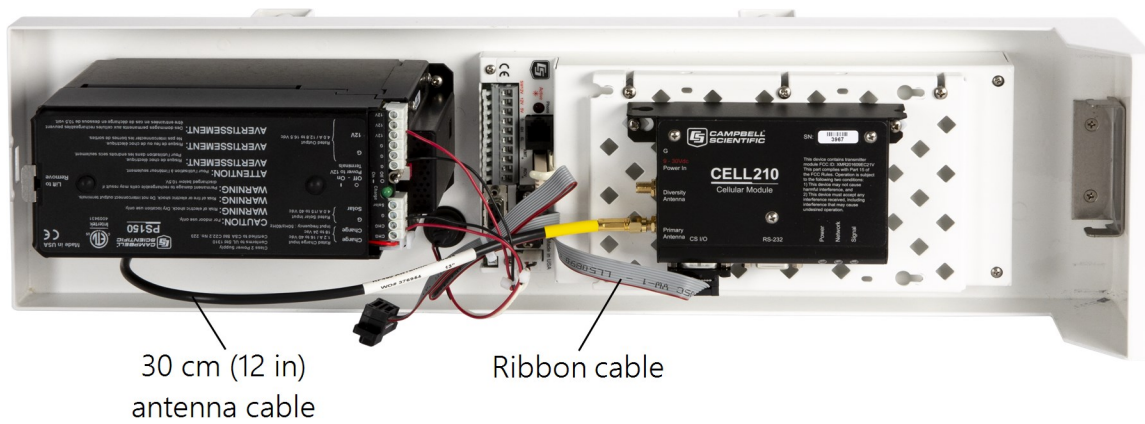

FIGURE 6-38. Cellular modem mounted inside the WS-PRO2 (power supply not shown)
2. Thread the smaller SMA connector end of the internal antenna cable underneath the battery cables and screw it to the RF antenna connector on the cellular modem (FIGURE 6-38 (p. 53)).
4. Use the ribbon cable to connect the CS I/O port on the CELL210 to the CS I/O 9-pin port on the WS-PRO2 (FIGURE 6-38 (p. 53)).